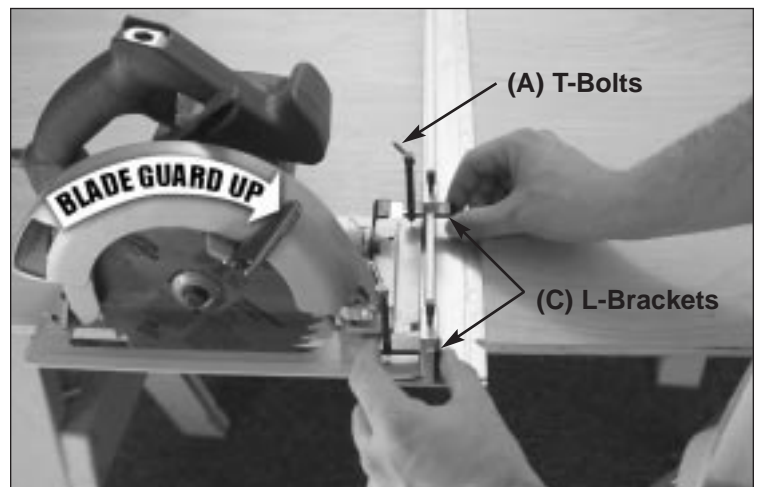

Fig. 6
6 With your Rip Master now positioned properly, adjust the L-Brackets (C) so that the T-Bolts (A) can be tightened down onto a relatively flat area of the saw's base plate, as shown in Fig. 6. The location of the L-Brackets (C) should also allow you to reach the T-Bolts (A), for tightening and loosening these onto the base plate.